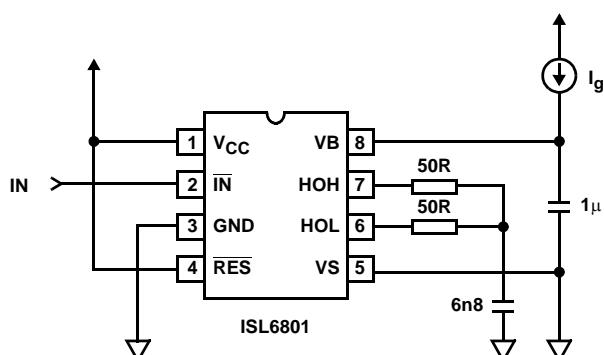

FIGURE 3. VB DROP VOLTAGE TEST CIRCUIT
4. The drop voltage is caused by VB to VS current flow during switching. See Figure 3.